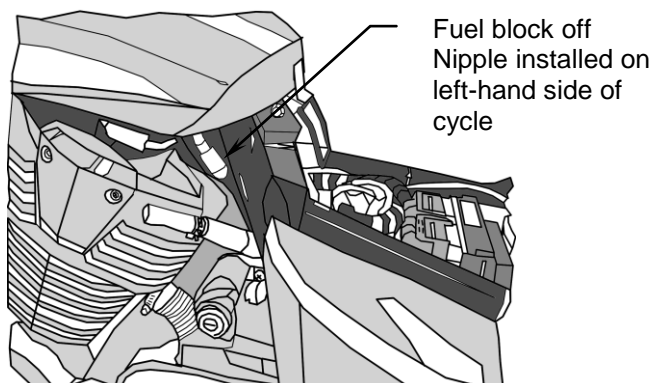

FIGURE 3
2. At the back of the gas tank remove the bolt securing the rear of the tank and gently pull (or wiggle) the fuel tank backwards until it just clears the two rubber locating pucks at the front. It is unnecessary to unplug any wires from the tank. In order to raise the rear of the gas tank on some models for access, **perform the following step in a well-ventilated area, free of open flame. To prevent severe fuel spillage and draining of the tank** use locking pliers to pinch off the rubber fuel hose at the left rear corner of the tank prior to disconnecting it. Immediately install the supplied rubber cap on the tank fuel nipple to prevent tank draining, Figure 3. Once this has been done, lift the rear of the tank up approximately 8" and use a secure prop to hold it in that position.